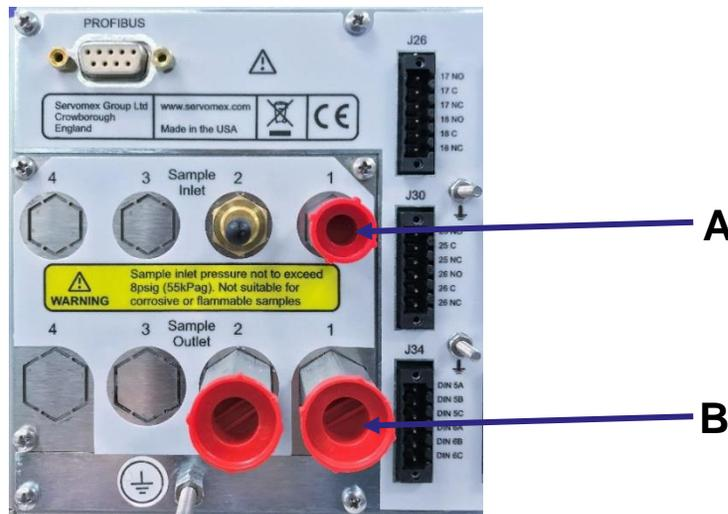

Figure 3-5: Gas inlets and outlets on rear of analyzer – Standard systems use Sample Inlet / Outlet #1 only.
Hint: Sample and calibration gases pass into the analyzer via Sample Inlet 1 (Figure 3-5 A, and out via Sample Outlet 1 (Figure 3-5 B). Sample Inlet 2 and Sample Outlet 2 are installed if required for a Nitric Oxide (NO) transducer (for use with an external Nitrogen Dioxide (NO₂) converter) or a Carbon Monoxide (CO) transducer (see Figure 3-5).
Connect your sample/calibration gas inlet and outlet pipelines to the Sample Inlet 1 (Figure 3-5 A) and Sample Outlet 1 (Figure 3-5 B) fittings on the rear of the analyzer. Do not over-tighten the fittings.